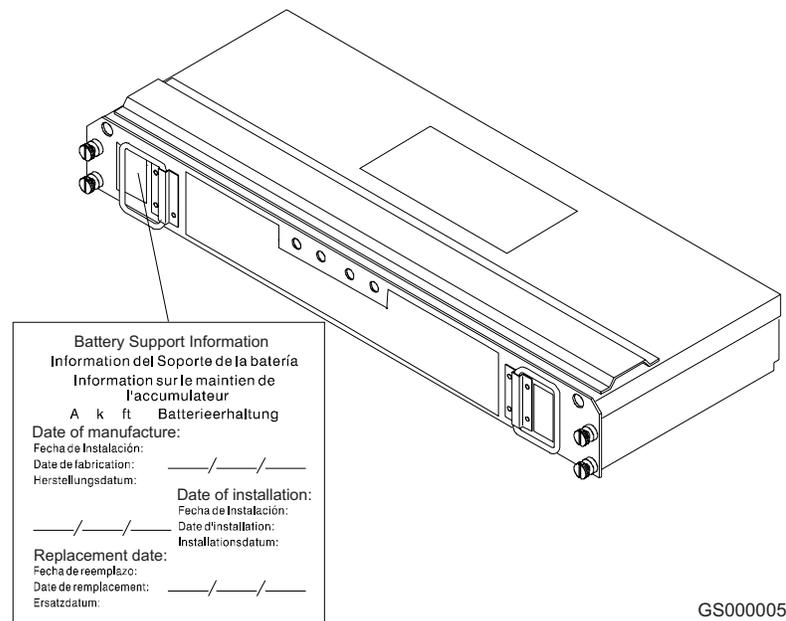

Figure 96. Checking the battery service date
2. Check the Battery Support Information label, as shown in Figure 96.